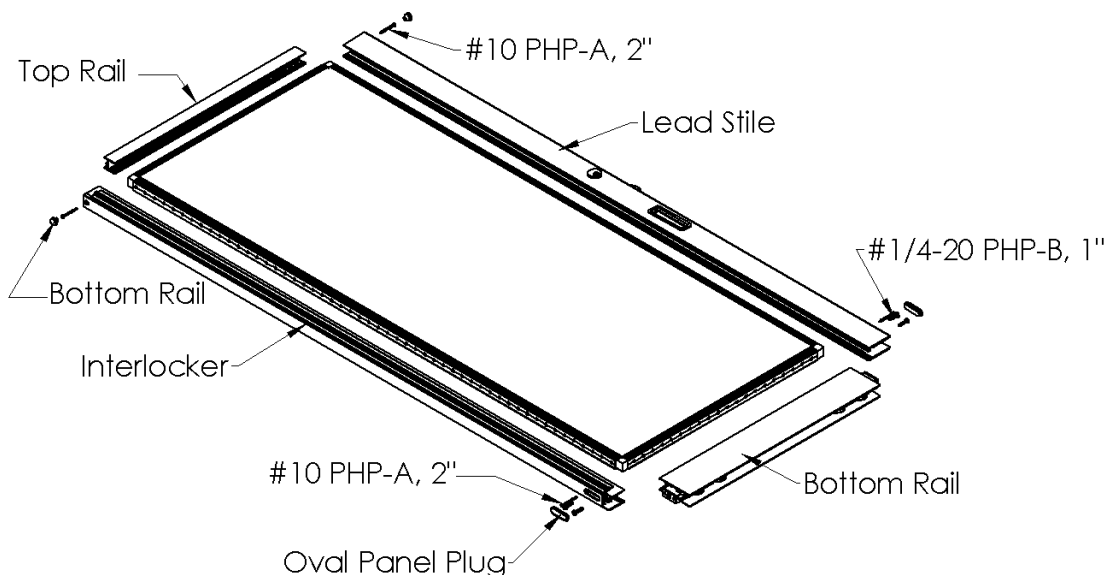

Figure 11:
6. Secure the stiles to the rails with (4) #10 x 2" pan head screws (Figure 11). Add wax to the ends of all fasteners to reduce the drive torque required for installation.